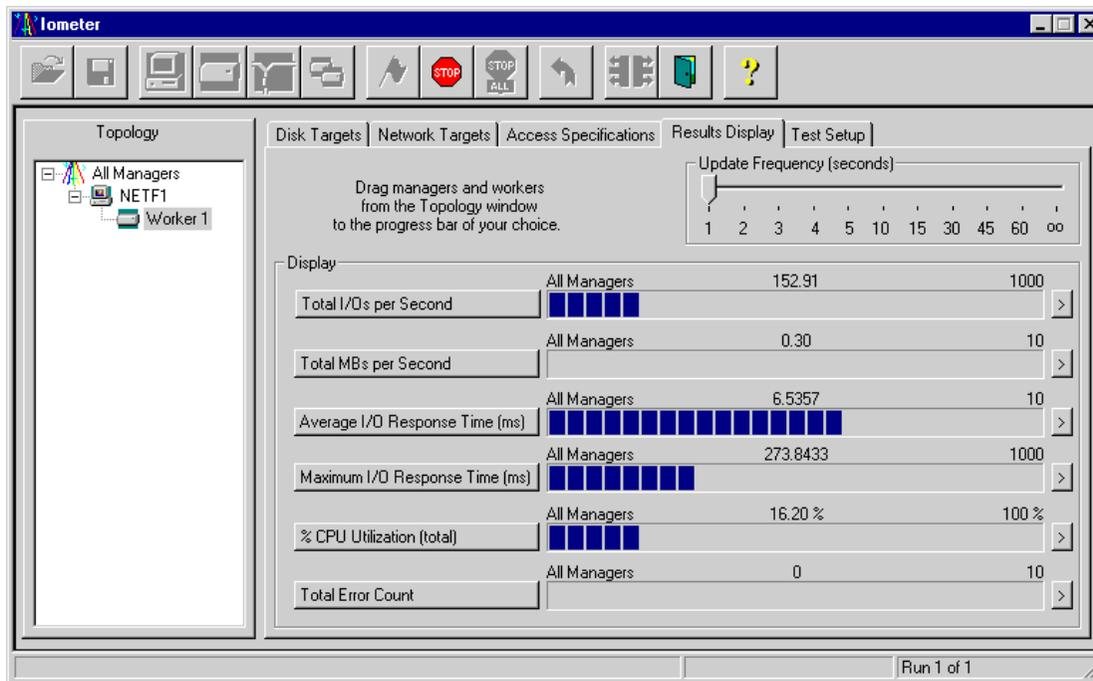

Figure 52. I/O test using Iometer
- Run a disk I/O on a volume that is attached to multiSCSI paths. In this case, we use IOMETER. See Figure 52.